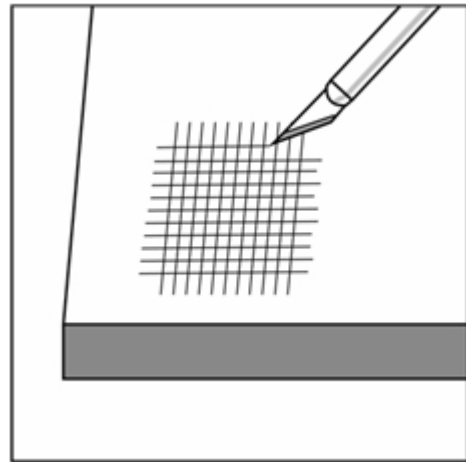

Figure 4d
2. Using a knife with a replaceable blade, make 11 parallel cuts  $1/16''$  apart. At a  $90^\circ$  angle to the first set of 11 cuts and crossing them, make a second set of 11 parallel cuts, also  $1/16''$  apart (Figure 4d). The purpose of the cuts is to break the film plane of the paint.